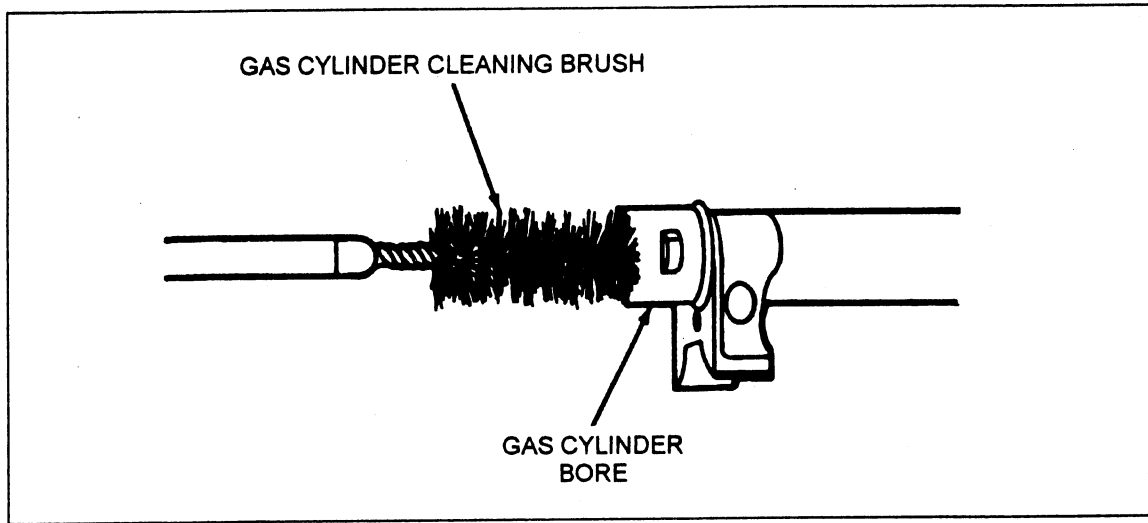

Fig 1-31. Using a gas cylinder brush.
- (10) Clean the gas cylinder bore with a gas cylinder cleaning brush dampened with CLP or RBC (see fig 1-31).